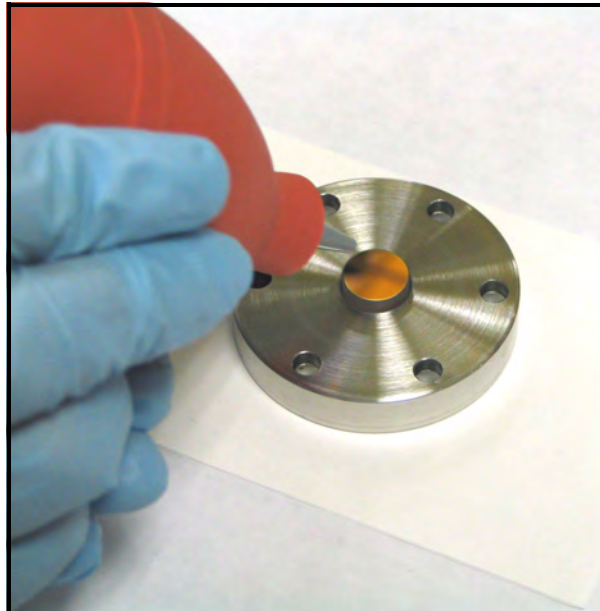

Figure 80: Drying the Mirror
- Use the air blower to blow dry air onto the surface of the mirror. Puff repeatedly until the mirror surface appears dry (see Figure 80).